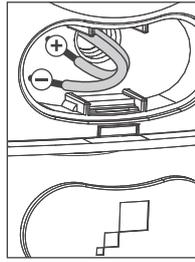

FIGURE 8:
- C. Insert the wires into the connector holes (see figure 8).